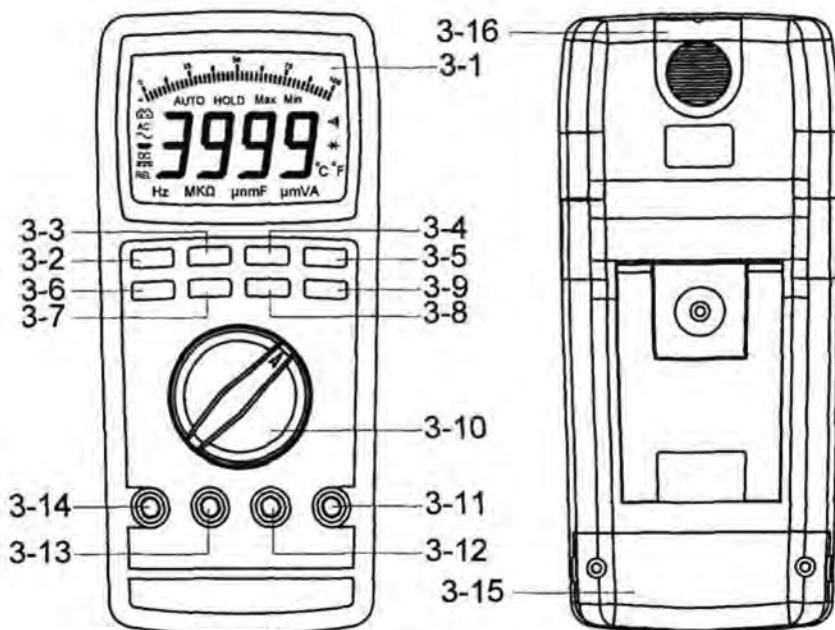

Fig. 1
- a. When not use the meter, should rotate the " Function rotary switch " (3-10, Fig. 1) to the " OFF " position.
Press the " MAX/MIN button " (3-2, Fig. 1) while turning the " Function switch " from the " OFF " position to the desiring function position.
- 1) Connect BLACK test lead into " COM " terminal (3-12, Fig. 1).
- 2) Connect RED test lead into " V " terminal (3-11, Fig. 1).
- 3) Select the " Function rotary switch " (3-10, Fig. 1) to the " V " position.
- 4) Push the " AC/DC button " (3-9, Fig. 1) to select the " ACV " or " DCV " measurement,
- 6) Under the operation of " auto range " mode, push the " Range button " (3-6 Fig. 1) once will execute the " Manual Range " mode and hold the range, the LCD will show the " MANU " marker.
Under the manual range operation, push the " Range button " (3-6 Fig. 1) > 2 seconds, will return to auto range operation.
During the measurement, if push the " VAHz button " (3-7 Fig. 1) once, until the LCD show the " Hz " marker and the display will show the frequency value of the measurement signal.
- 2) Connect RED test lead into " Ω " terminal (3-11, Fig. 1).
- 3) Select the " Function rotary switch " (3-10, Fig. 1) to the " Ω " position.
- 5) Under the operation of " auto range " mode, push the " Range button " (3-6 Fig. 1) will execute the " Manual Range " mode and hold the range, the LCD will show the " MANU " marker.
- 2) For the " mA, uA " measurement, connect RED test lead into " mA uA " terminal (3-13, Fig. 1).
For the " 10 A " current measurement, connect RED test lead into " A " terminal (3-14, Fig. 1).
- 3) For the " uA " measurement (400 uA, 4000 uA), select the " Function rotary switch " (3-10, Fig. 1) to " uA " position.
For the " mA " measurement (40 mA, 400 mA), select the " Function rotary switch " (3-10, Fig. 1) to " mA " position.
For the " 10 A " measurement, select the " Function rotary switch " (3-10, Fig. 1) to " A " position.
- 4) Push the " AC/DC button " (3-9, Fig. 1) to select the " ACA " or " DCA " measurement,
- 6) Under the operation of " auto range " mode, push the " Range button " (3–6 Fig. 1) once will execute the " Manual Range " mode and hold the range, the LCD will show the " MANU " marker.
Under the manual range operation, push the " Range button " (3–6 Fig. 1) > 2 seconds, will return to auto range operation.
During the measurement, if push the " VAHz button " (3–7 Fig. 1) once, until the LCD show the " Hz " marker and the display will show the frequency value of the measurement signal.
- 3) Select the " Function rotary switch " (3–10, Fig. 1) to the " \rightarrow " position.